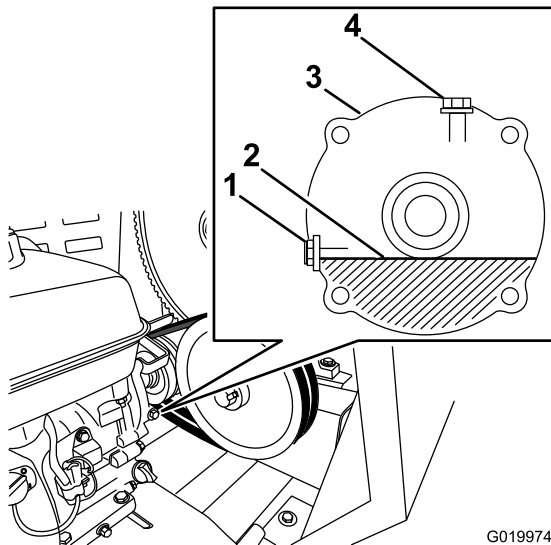

Figure 53
2. Locate the reduction case between the engine and the engine pulley (Figure 53).
4. Remove the oil-level-check bolt and washer from the oil-level port (Figure 53).
- A. Remove the filler bolt and washer from the filler port on the top of the reduction case (Figure 53).
- C. Install the filler bolt and the washer to the filler port of the reduction case, and tighten the filler bolt (Figure 53).
5. When the oil level is flush with the threads at the bottom of the oil-level port, install the oil-level-check bolt and the washer to the port and tighten the oil-level-check bolt (Figure 53).
8. Slowly add the specified oil into the fill port until the oil level is level with the threads at the bottom of the oil-level port (Figure 53).